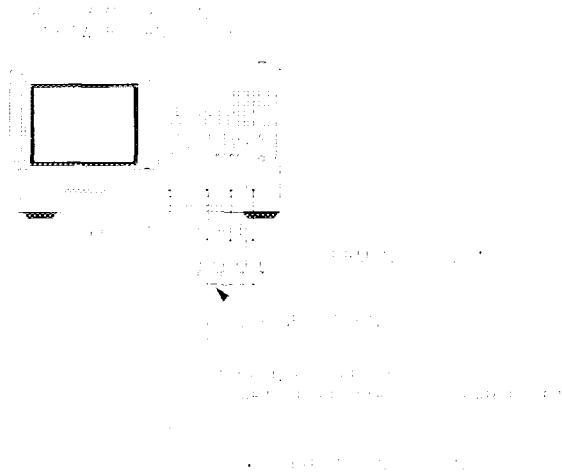

Figure 6-7. Receiver Channel Noise Floor Level Test Setup
- 1 Connect the equipment as shown in Figure 6-7.